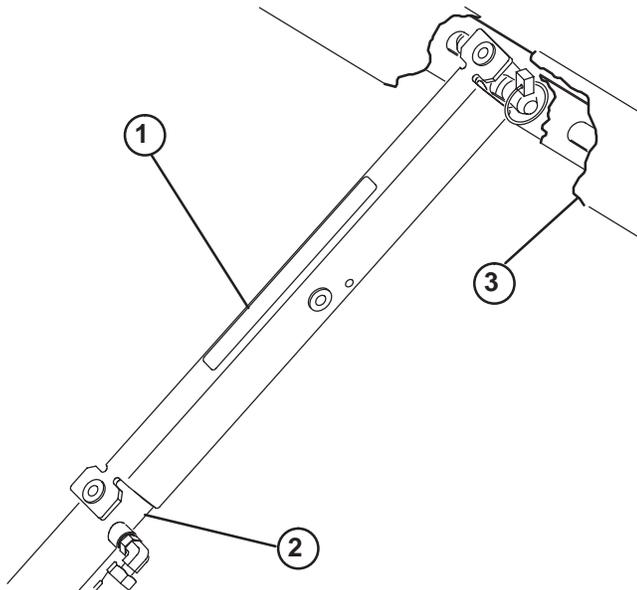

Figure 37
3. Push bed support onto cylinder rod, making sure support end tabs rest on end of cylinder barrel and on cylinder rod end (Fig. 37).